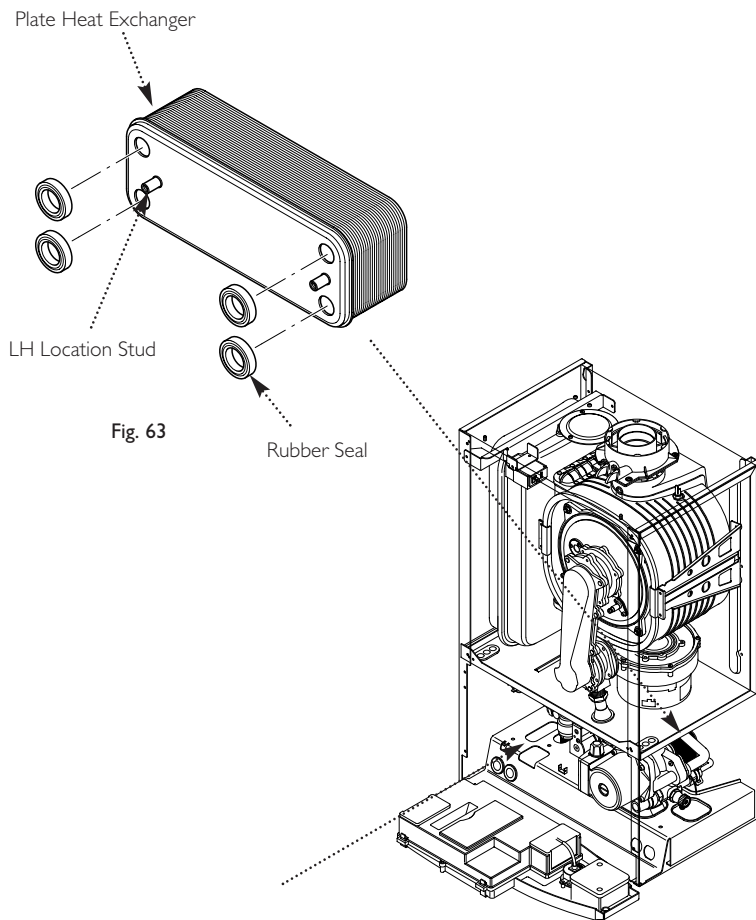

Fig. 63
12.19 Plate Heat Exchanger (Fig. 63)